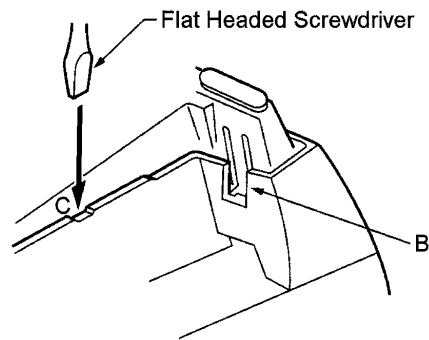

Figure 6-33: Releasing Right Tab
- Lightly press right side of leg shown as B in *Figure 6-33: Releasing Right Tab*, insert flat head screwdriver at C and Press straight down until other tab unlocks.